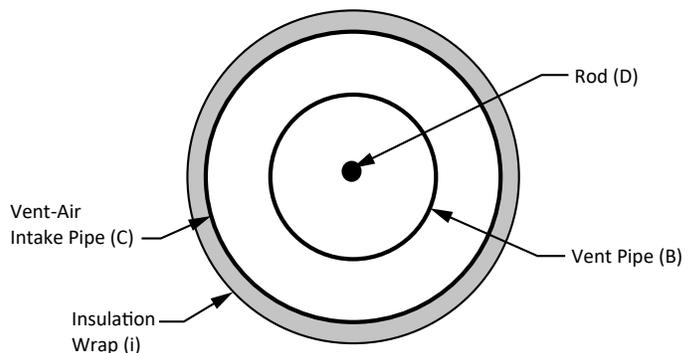
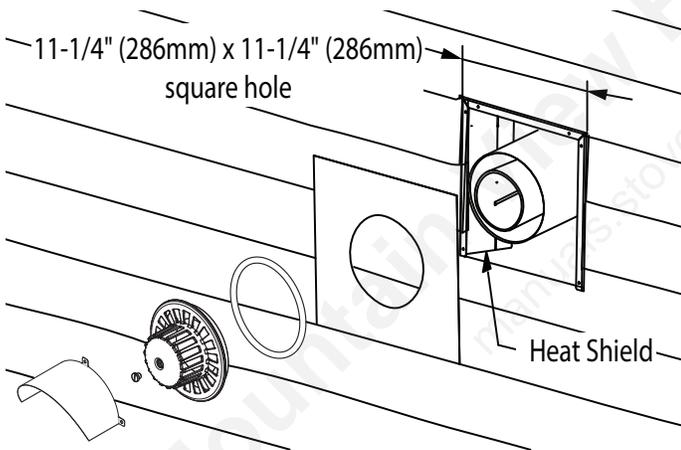

Figure 26
Figure 27
- (B) vent pipe
- (C) vent-air intake pipe
- (D) rod
- The hole at the outside of the wall must be a square of 11-1/4" (286 mm) x 11-1/4" (286 mm) (see figure 27).
- Slide the heat shield (K) into the 11-1/4" (286 mm) x 11-1/4" (286 mm) square hole. Secure the heat shield (K) to the wall bracket using the appropriate hardware.
- From the outside of the wall, screw the rod (D) slightly onto support located inside the appliance flue outlet.
- Wrap the vent-air intake pipe (C) with the provided insulation (i) (foil side out) and place the provided strip of tape (H) down the seam to secure it.
- Slide the smaller vent pipe (B) (from outside your house) through the hole in the wall and attach to the mounted heater inside your house. Be sure the vent pipe is snug and engaged to the heater. Then slide the larger Vent-Air Intake Pipe, with the insulation wrapped and taped to the outside of the pipe, through the same hole and over the smaller Vent Pipe (B) and attach to the heater.
NOTE: It is critical that the insulation wrap (i) be wrapped and secured with the tape on the outside of the larger Vent-Air Intake Pipe (C). The insulation is NOT to be wrapped in between Vent Pipe (B) and Vent-Air Intake Pipe (C) (see figure 26).